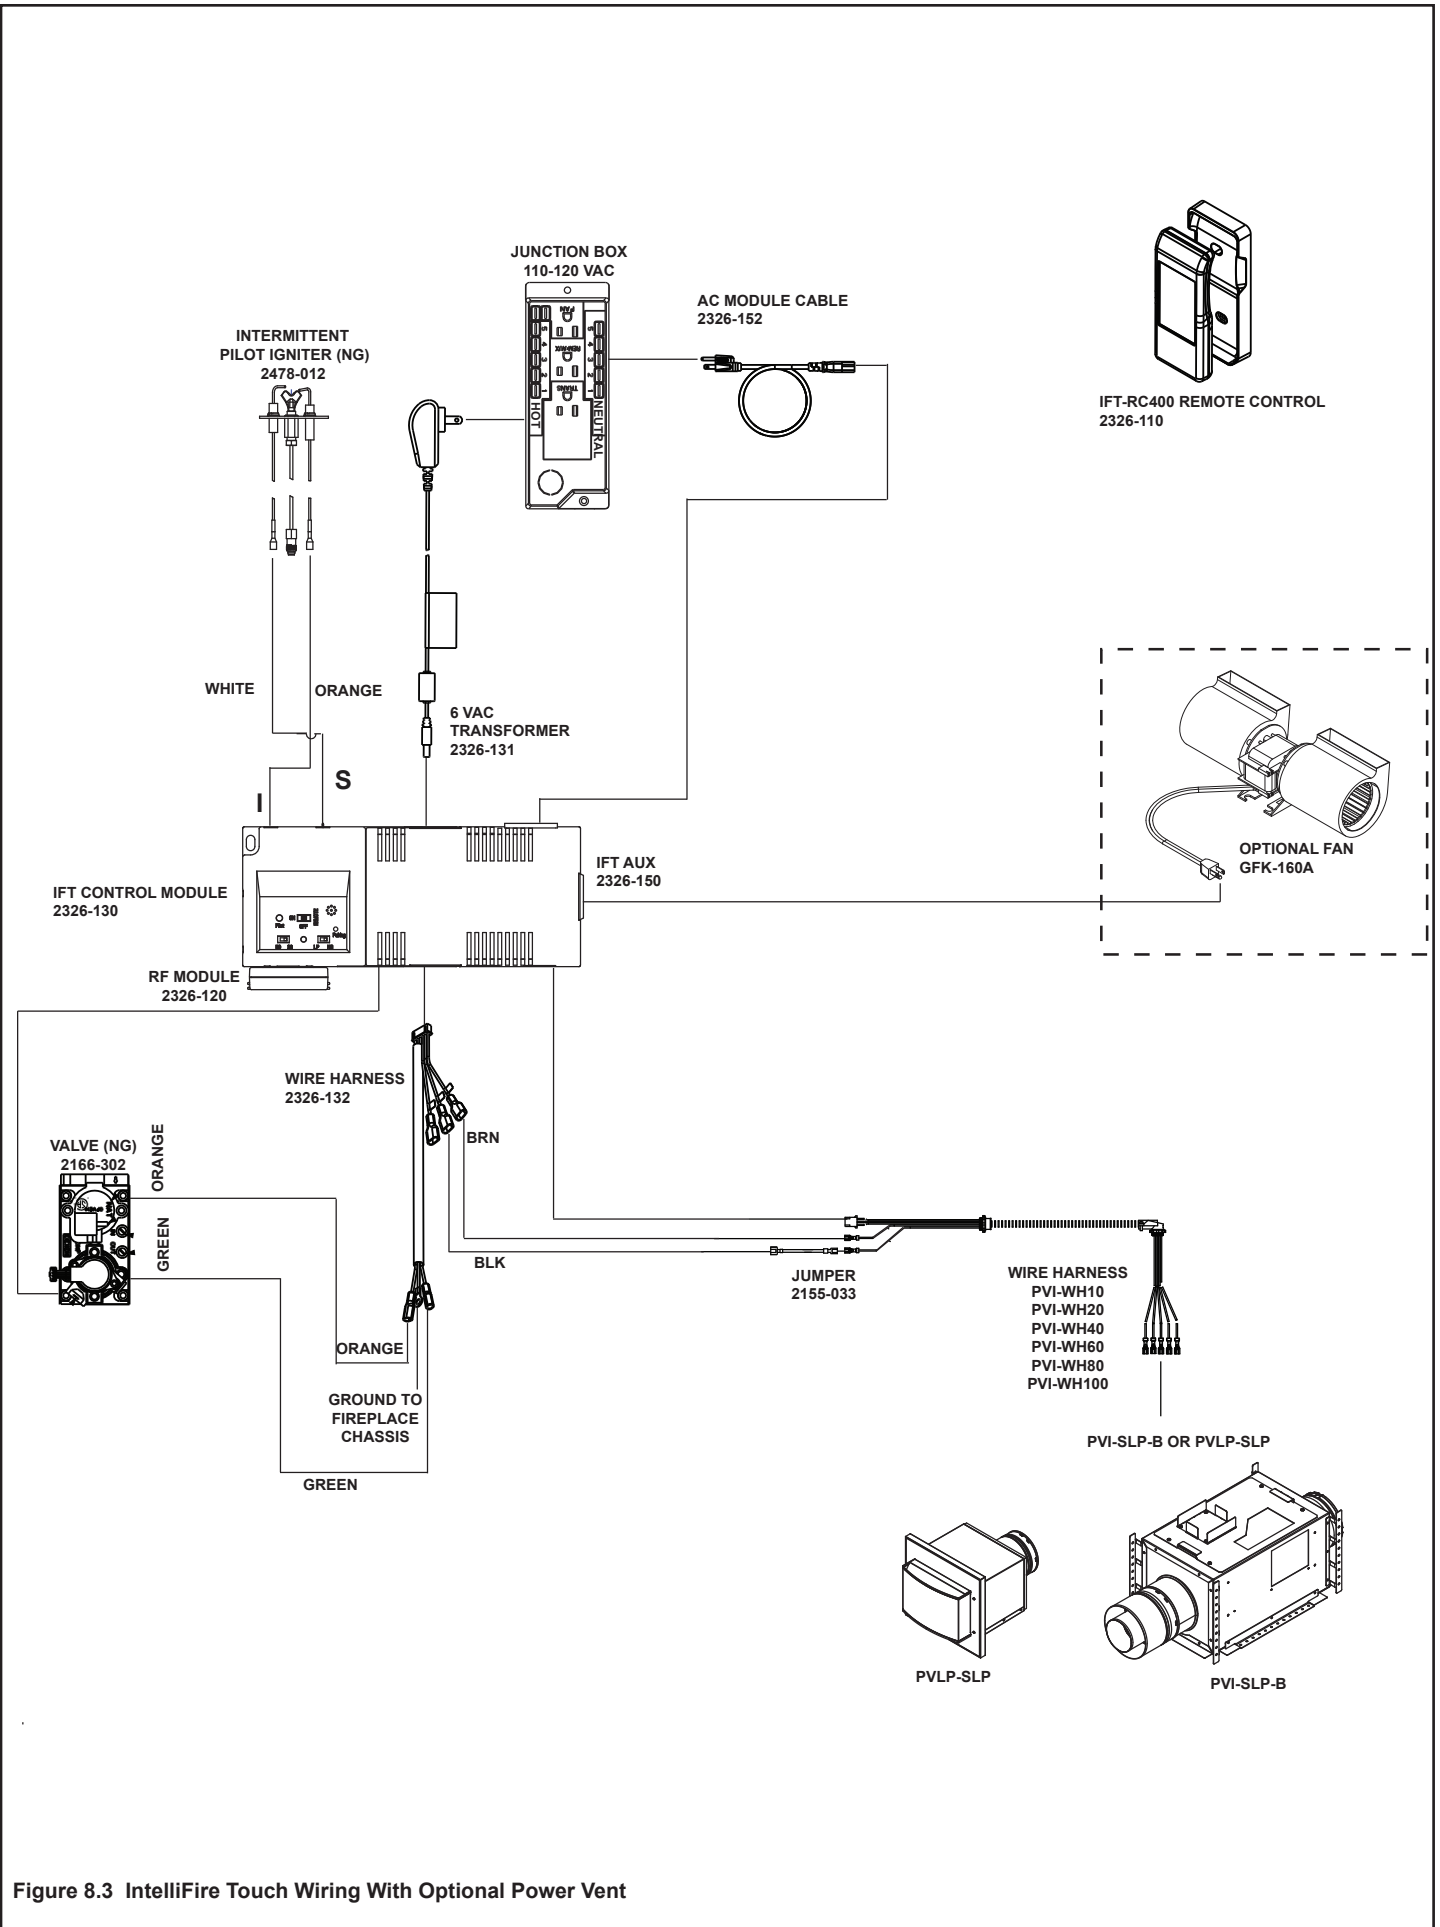

Figure 8.3 IntelliFire Touch Wiring With Optional Power Vent
1. Wire the fan as shown in Figure 8.3.